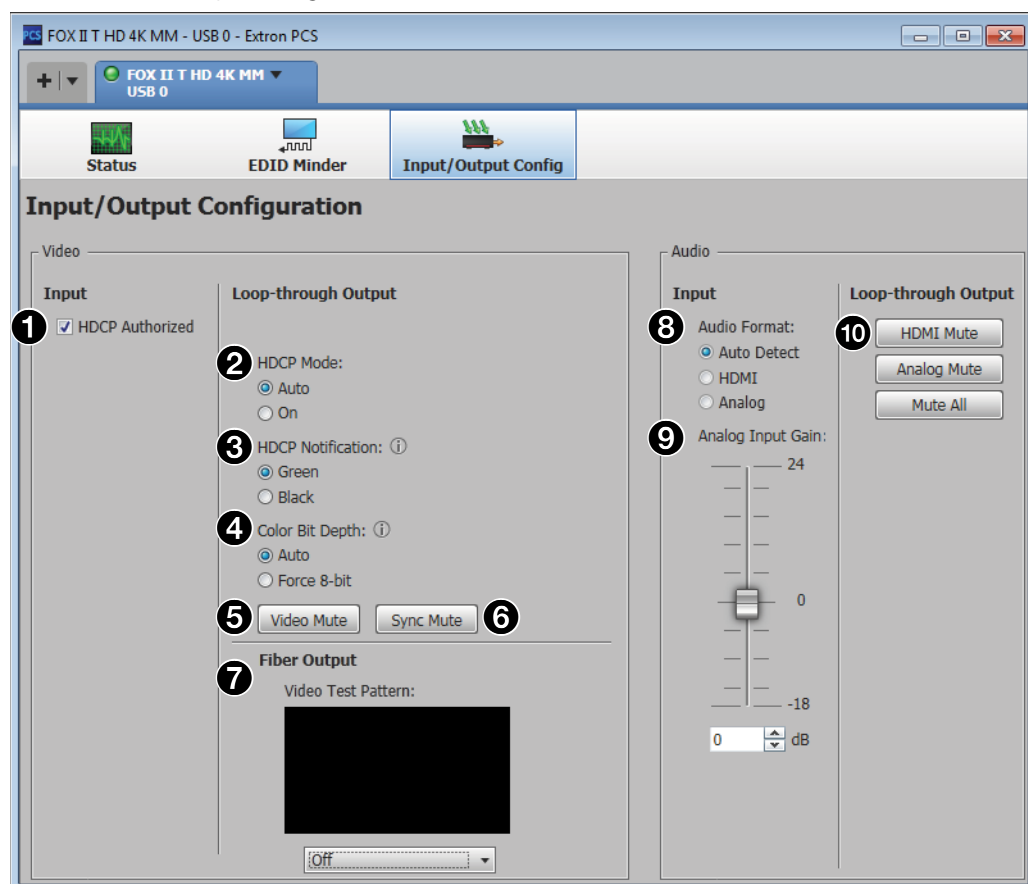

Figure 16. Input/Output Configuration Window
The **Input/Output Configuration** window allows you to set the input and output option features of the transmitter (see figure 16). Select this window from either the **Status** or **EDID Minder** window by clicking **Input/Output Config** on the menu bar.
- ④ **Color Bit Depth radio buttons** (see figure 16 on the previous page) — Select the **Auto** radio button for the transmitter to automatically follow the input bit depth. Select **Force 8-bit** to constrain the bit depth.